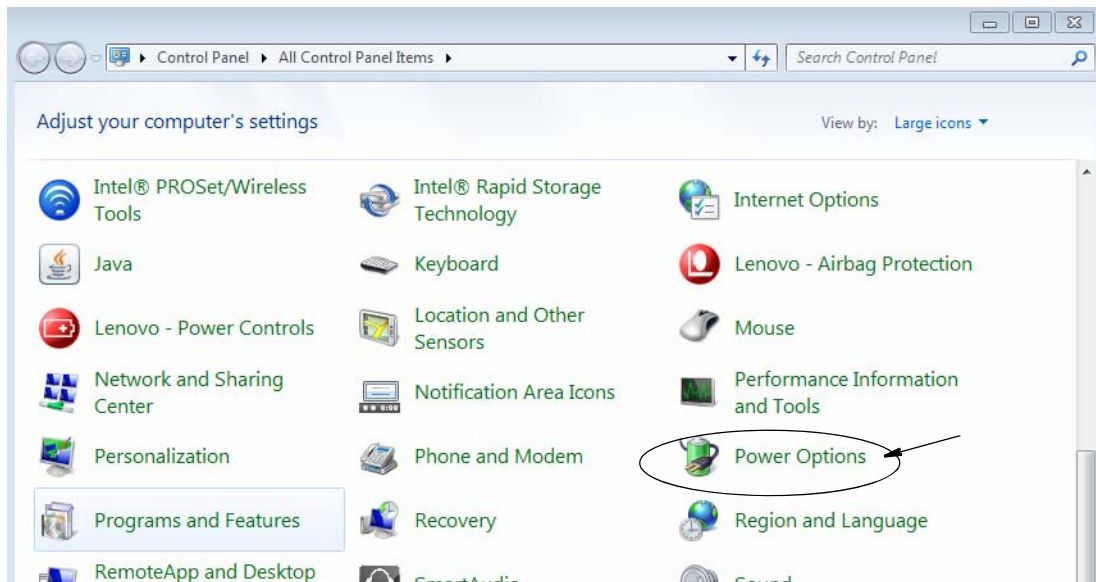

FIG. 52
2. Select the Power Options icon (FIG. 52).